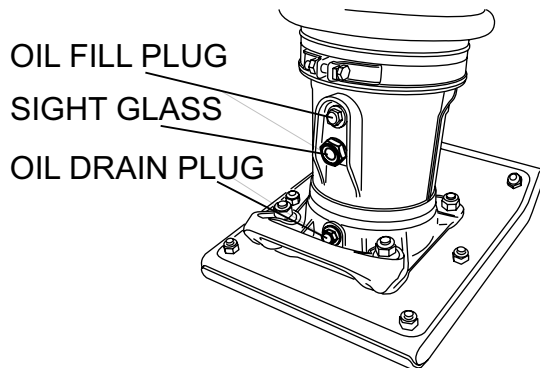

Figure 6. Foot Housing Sight Glass
1. Check the oil level through the oil level sight glass (Figure 6) at the rear of the tamper foot.
2. If oil is not visible, add 10W-30 SE, SF or higher grade motor oil into the oil fill plug opening (Figure 6). The bath contains approximately 1.7 pints (800 cc.)